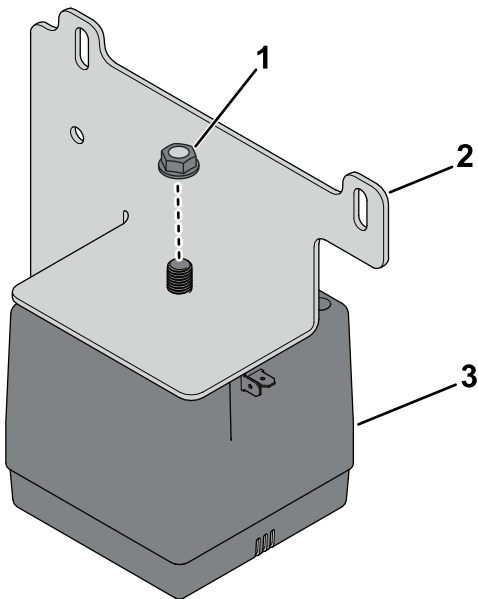

Figure 25
13. Use the existing nut on the horn to secure the horn to the horn mount bracket (Figure 25).